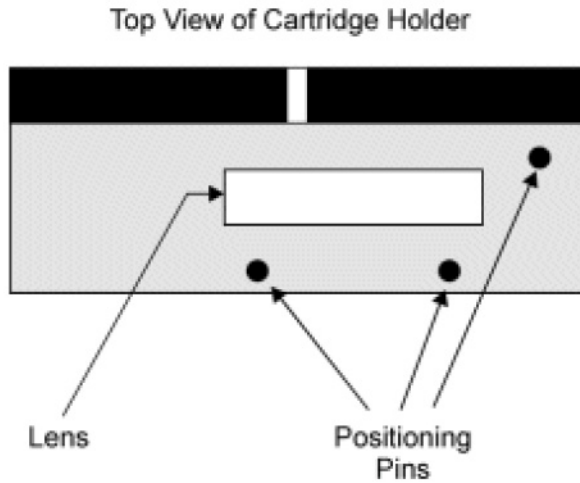

Figure 5-6: Cartridge holder top view.
9. Open the front door of the iCE3 instrument to access the cartridge holder (Figure 5-6).